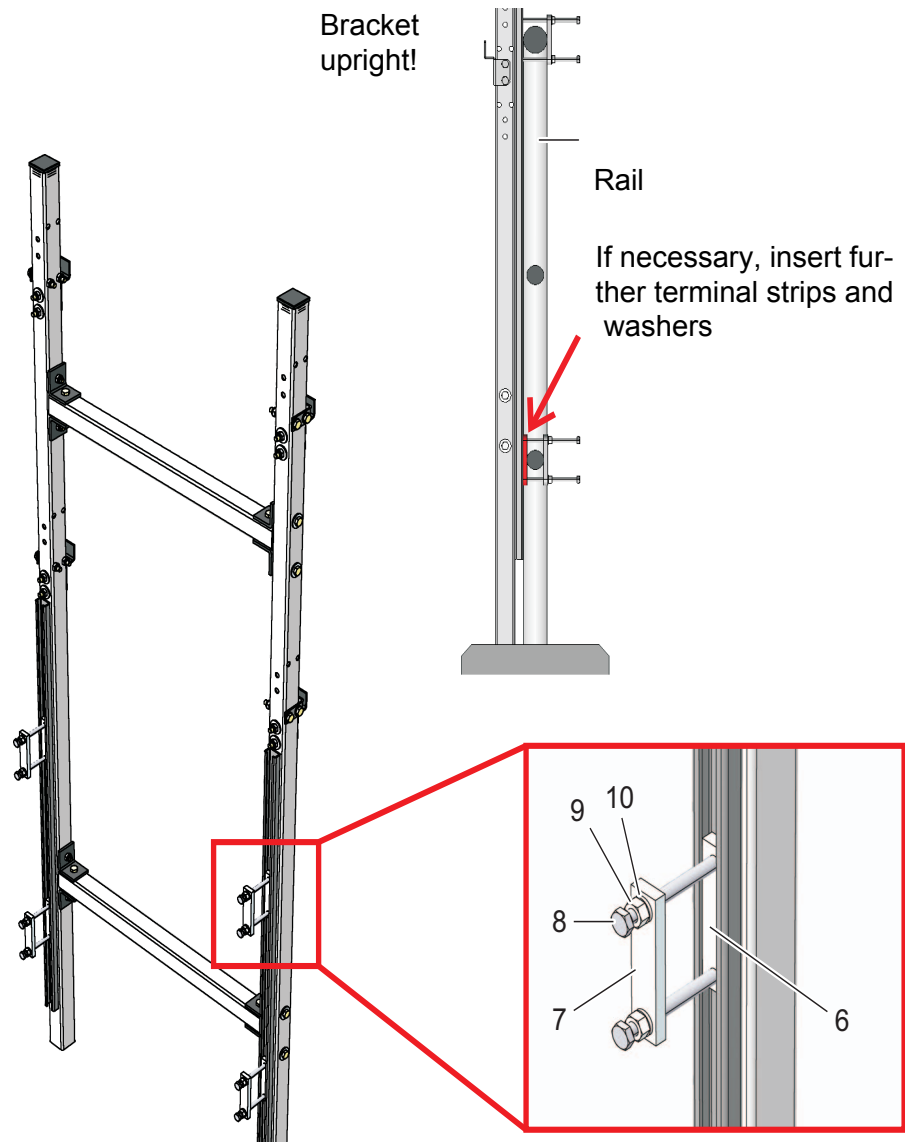

Fig. 3-9: Mounting the rail mount bracket on the rail
- Attach the rail mount bracket to two suitable horizontal rail pipes with the aid of the four clamping devices. Each clamping device consists of a groove bar (6), a terminal strip (7), two long hexagon head screws (8), two nuts (9) and two spring washers (10). Adjust the clamping devices to the rail pipes. To compensate for any possible differences of the upper and lower rail pipe diameters, 2 further terminal strips and 8 washers (thickness 2 mm) are provided with the construction set. If necessary, insert these items between the rail and supporting pipes as shown in Fig. 3-9, 32 so that the rail mount bracket is in a vertical position. Note that both supporting pipes must stand on the ground!